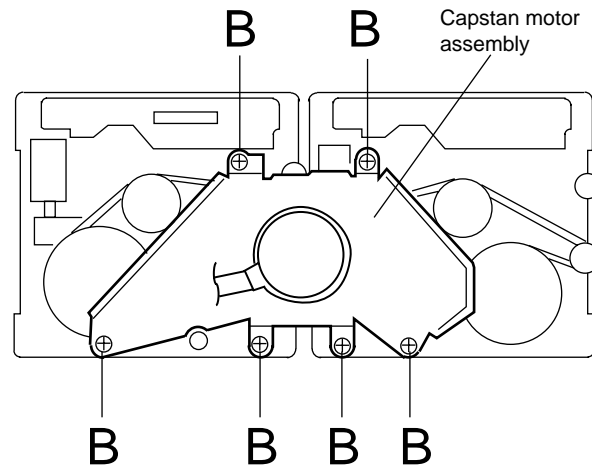

Fig. 5
(See Fig. 5 to 7)**
1. Remove the six screws "B" retaining capstan motor assembly (See Fig. 5).